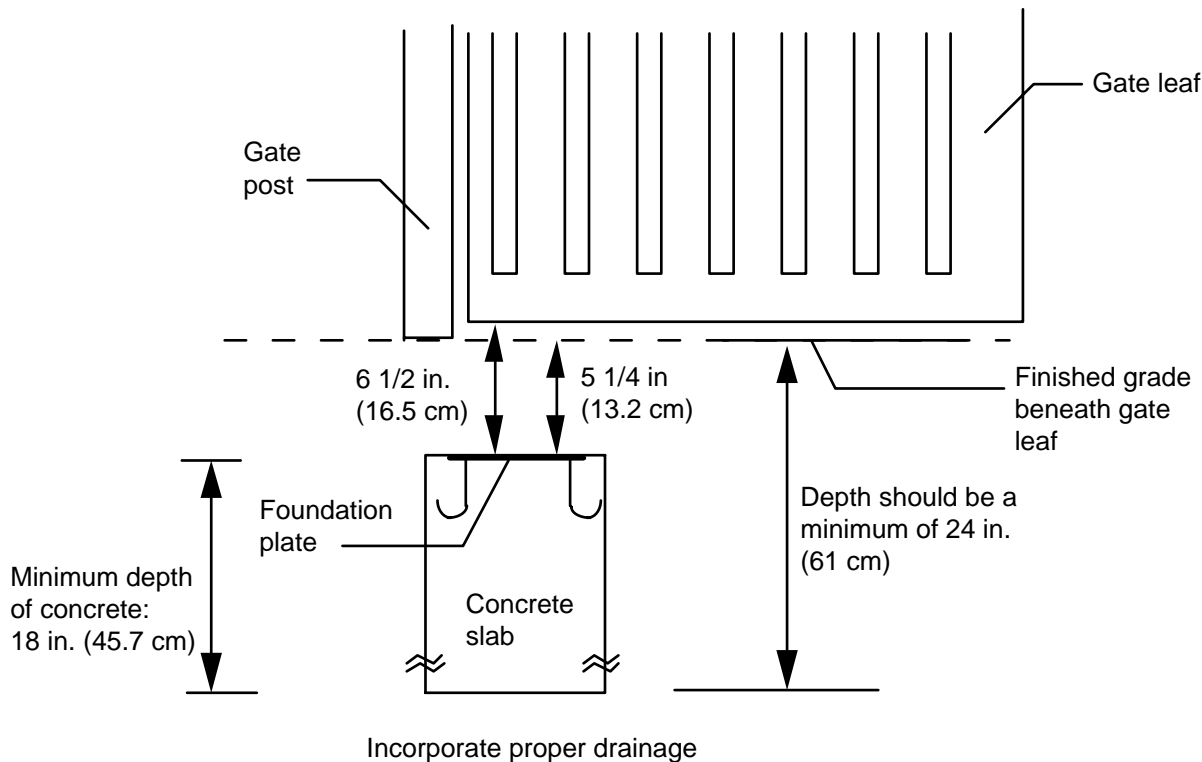
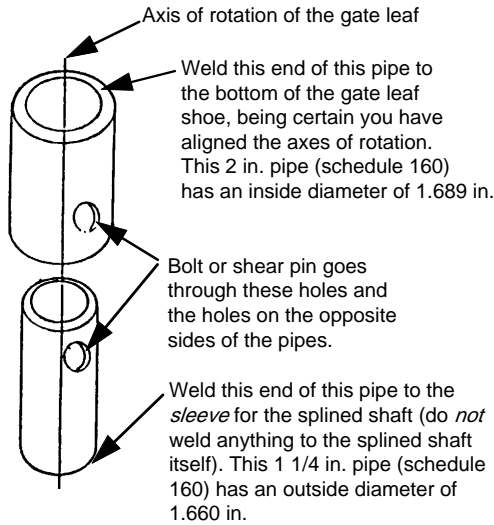

Figure 4. Recommended dimensions for the concrete footing and foundation plate, side view
Figure 8. A sample shear-pin assembly
Note: If the vertical distance between the finished grade and the bottom of the gate leaf exceeds 1 1/4 in. (3.3 cm) as shown in Figure 4, you can install a shear-pin assembly as shown in Figure 8 and as discussed in "Installing the Gate Leaf Shoe."
If the vertical distance between the finished grade under the gate and the bottom of the gate leaf is more than 1 1/4 in. (see Figure 4), you need to do one of the following:
- Construct a shear-pin assembly to accommodate the extra vertical distance. The assembly is welded to the bottom of the gate leaf shoe on one end and to the sleeve for the splined shaft of the pinion on the other end (see Figures 8 and 9). Such an assembly requires a bottom hinge and also protects the pinion and splined shaft in the event something hits the gate with great force.